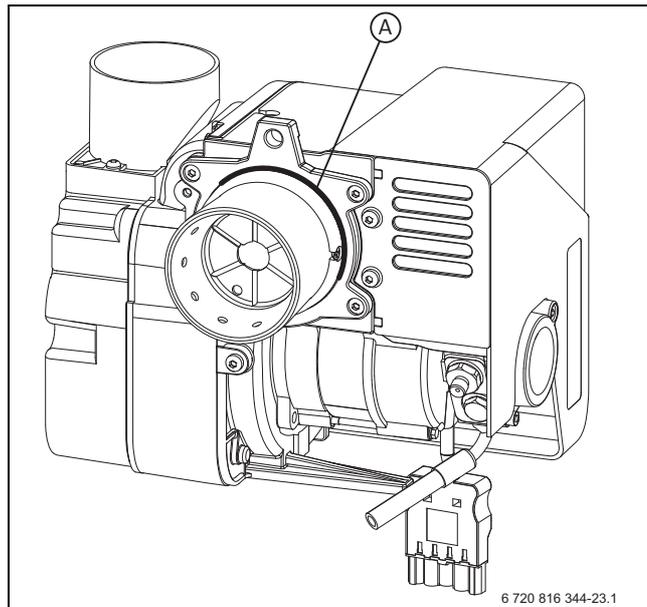

Fig. 39 Burner O-ring seal
- ▶ Always check that the O-ring seal (Fig. 39 item A) is in good condition before fitting the burner. Replace the O-ring seal if defective.